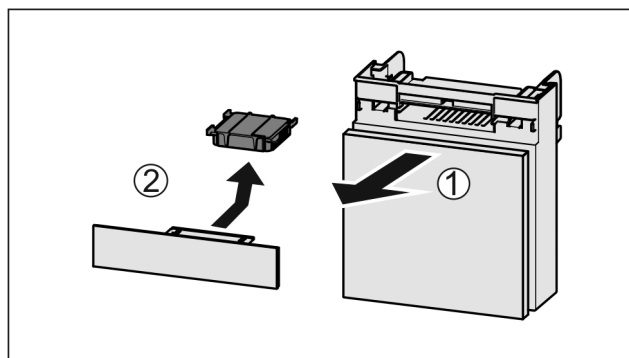

Fig. 152
- ▶ Pull out the compartment Fig. 152 (1).
- ▶ Remove the carbon filter Fig. 152 (2).